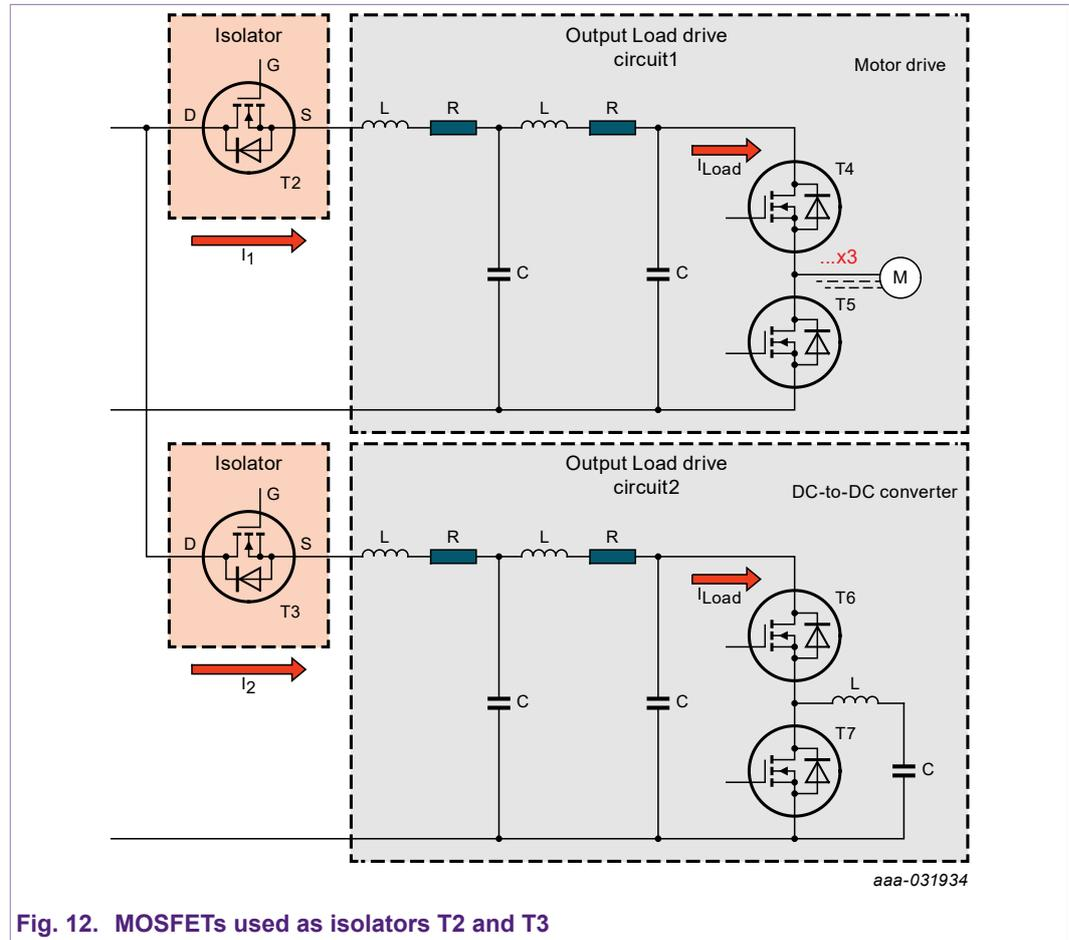

Fig. 12. MOSFETs used as isolators T2 and T3
Some designs may drive two different output loads. A representation of such circuits is given in Fig. 12 above. MOSFETs T2 and T3 are used to isolate their respective circuits as they may not need to operate at the same time.
- Current capability in MOSFETs. T2 and T3 need to cater not only for the current needed to drive the loads, but also for the immediate drive circuits current drawn (Fig. 12 circuit 1 & circuit 2 respectively).